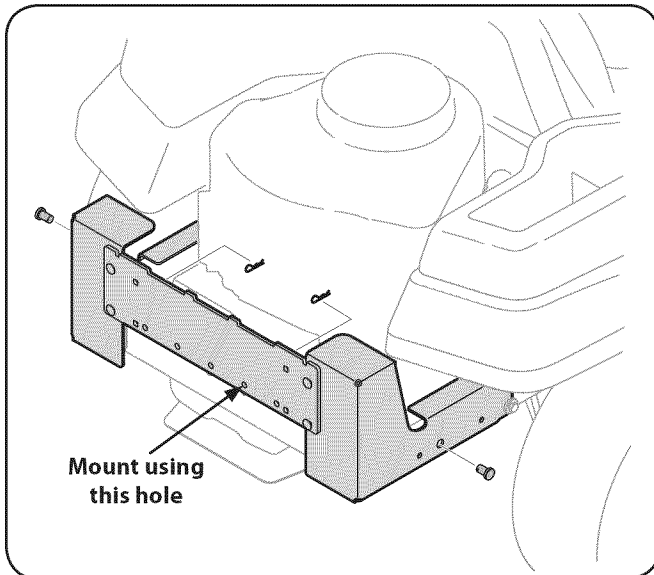

Figure 4-5
two 911-0332 clevis pins and 914-04023 cotter pins from hardware pack 689-00093. See Fig. 4-5.
4. Secure the hanger assembly to the mounting assembly using a 5/16" bolt and flange nut packed in with this upright bagger support, as shown in Fig. 4-7. Use the mounting hole to the right of the center hole, as pointed out back in Fig. 4-5.